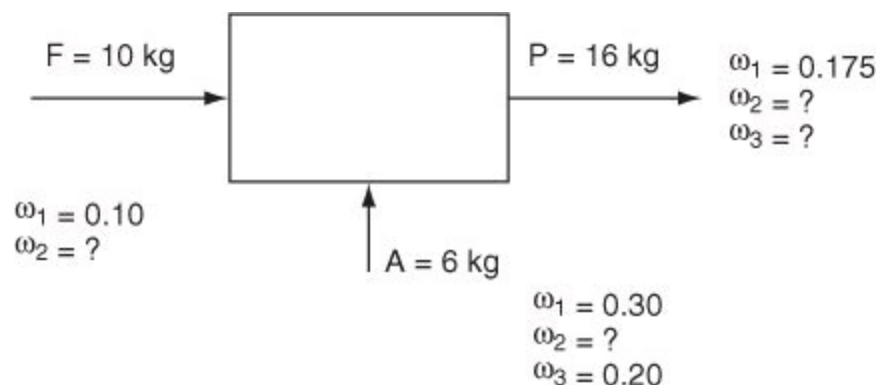

Figure P3.2.8
**3.2.8. In the steady-state process (with no reactions occurring) shown in Figure P3.2.8 you are asked to determine if a unique solution exists for the values of the variables. Does it? Show all calculations.